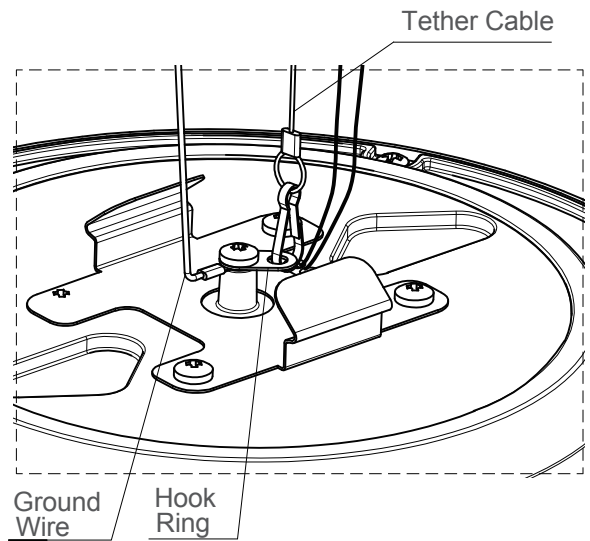

Figure 4
4. Attach the Tether Cable to Hook Ring on the back of fixture. See Figure 4.